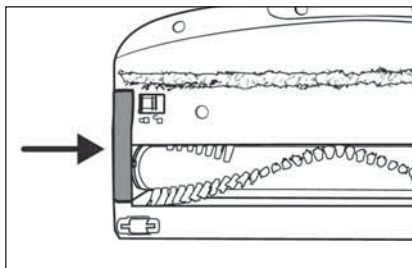

Fig. 29
- 6) Put the rotary brush holder **20** back into the floor brush **22**. Push it down until it audibly clicks into the floor brush **22** (see Fig. 29).